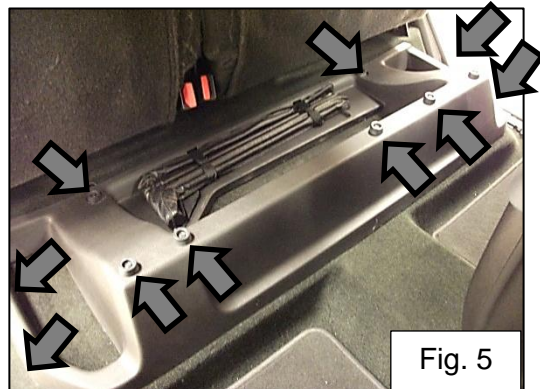

Fig. 5
8. Remove the eleven bolts and rubber bumpers securing the rear seat frame trim panel and remove the trim panel from vehicle. Fig. 5